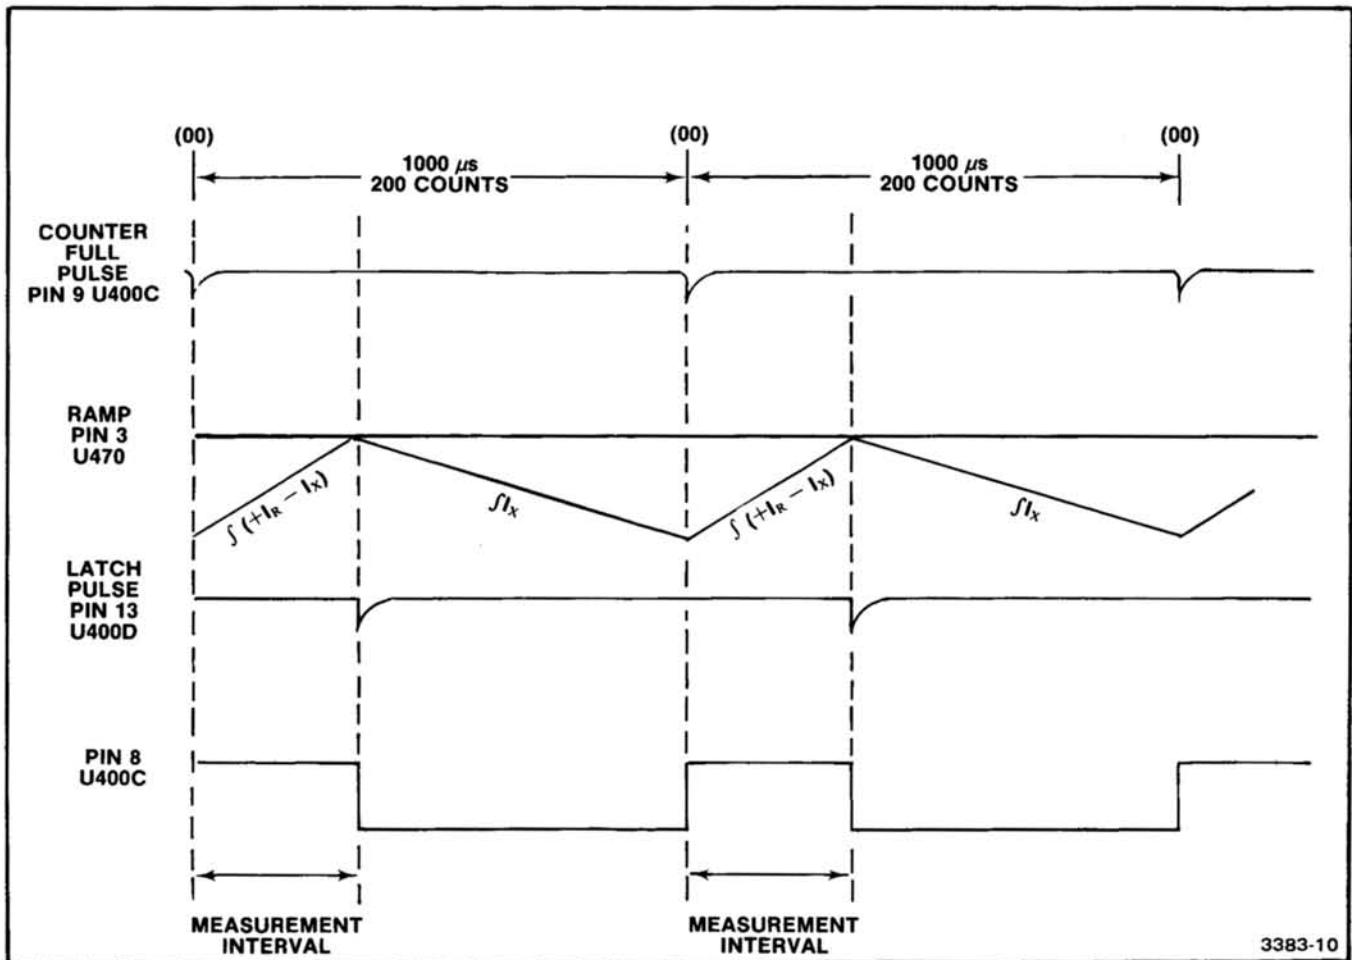

Fig. 3-1. DVM timing diagram for a negative input to the integrator U460.
The system contains two reference current sources; a $+I_r$ source from the collector of Q415 and a $-I_r$ source from the collector of Q400. Only one of these current sources is switched on at a given time, dependent on the polarity of the voltage change on the 100 V bus. For a ramp that is negative, pin 5 of U400B is set high and pin 1 of U400A is set to a low. Pins 2 and 4 of these NAND gates connect to a common control line and, while the counter is counting up to a count of 200 (00), pin 8 of U400C is at a low level. During the first ramp period, the output levels of U400A and U400B are high and both reference current sources are cut off. See Fig. 3-1.